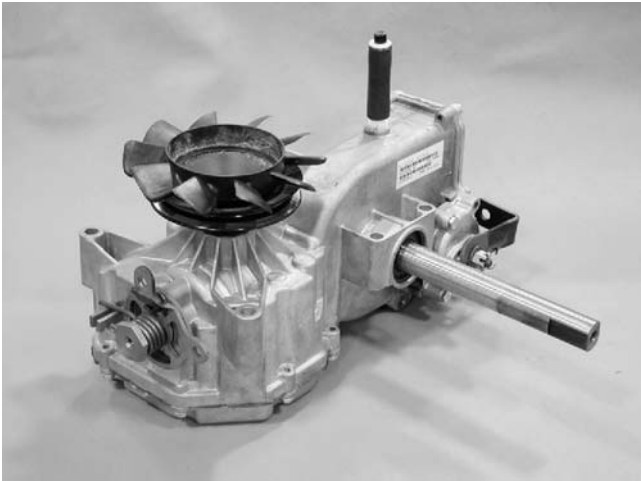

Figure 11-29
12. While supporting the IZT, carefully remove the two remaining nuts and bolts, then lower the IZT out of the tractor. The IZT must be tilted slightly to allow the cooling fan to clear the frame. See Figure 11-29.